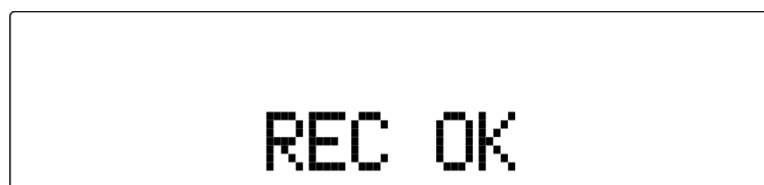

Fig. 10
- 04) Press the **Rec** (44) buttons when you're finished recording. The display will show REC OK as shown in fig. 10.